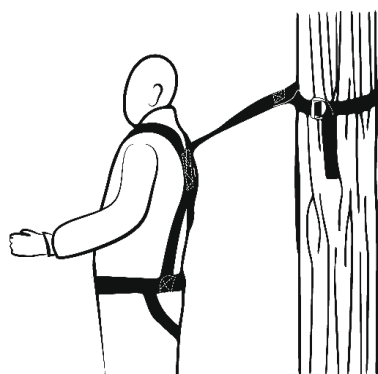

Figure 12
STEP 3: With the full-body fall arrest harness tree belt and tether installed as outlined previously, adjust the height of the tree belt so it is taut as shown in Figures 12 and 13. Please note, the tether length will vary depending on whether or not you are plan on standing or sitting during your use of this Millennium Outdoor product. You must keep the tether length as short as possible at all times to minimize the distance you might fall in the unlikely event you experience a fall while using this Millennium product.